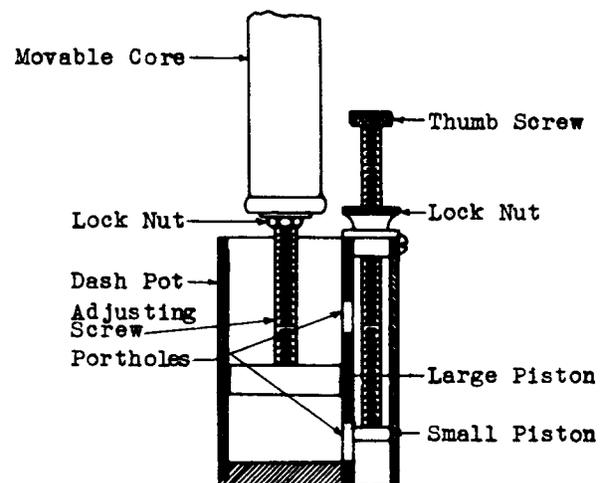

Fig. 3 - Dashpot
(1) If the dashpot oil is gummed or dirty remove the dashpot from the panel, using a 3-1/2 inch cabinet screwdriver. Referring to Fig. 3 note the position of the small piston by measuring the distance between the thumb screw and lock nut. Then loosen the lock nut and screw the small piston to its extreme lower position by turning clockwise. Empty out the oil including that in the cylinder of the small piston, by holding the dashpot horizontal and rocking slowly up and down from the horizontal, the small cylinder being on top. Clean the inside of the dashpot with petroleum spirits and make sure that it is free from dirt, grit or other foreign matter. Replace in the reverse order and refill to the proper level with dashpot oil, moving the large piston up and down to free the oil from air bubbles which may cause a fluctuating voltage. Reset the small piston to its original position and tighten the lock nut.
(2) If the regulator still does not operate satisfactorily see that the large piston of the dashpot is not sluggish in operation. Should the large piston not move readily, loosen the lock nut on the small piston and lower the small piston by turning the thumb screw clockwise. This results in opening a larger area of the lower porthole, permitting oil to pass in and out above the small piston thus accelerating the movement of the large piston. The action of the dashpot should not be too free or too sluggish, but so adjusted that it does not permit the voltage to hunt under normal conditions and will take care of sudden changes of load without hesitation. This adjustment should be made under various